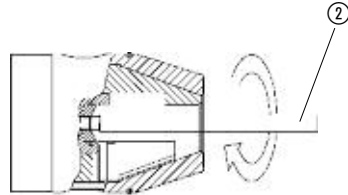

Fig. 2
Screw the fitting tool ② into the sealing washer (Fig. 2). The fitting tool is not included.